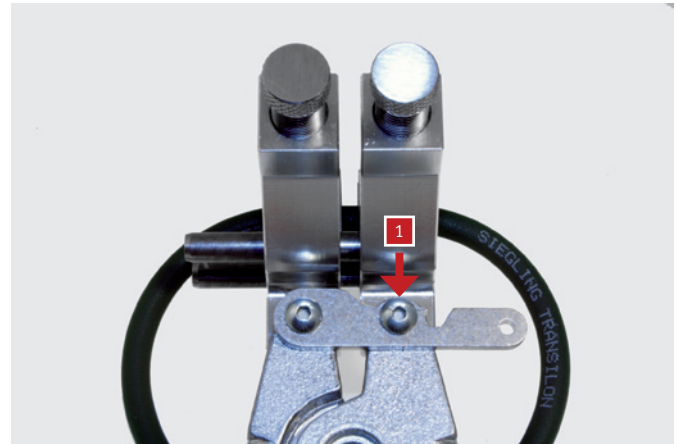

Fig. 10
- Setting 1 for round belts of 3 to 6 mm diameter notch 1 (Fig. 10).